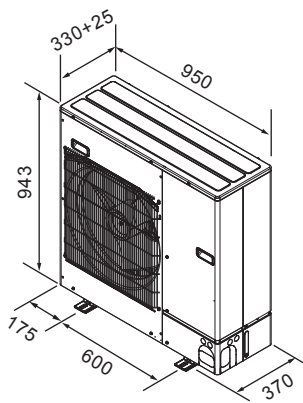

Fig. 3-2
■ Outline dimensions (Outdoor unit) (Fig. 3-2)
(1) Windy location installation